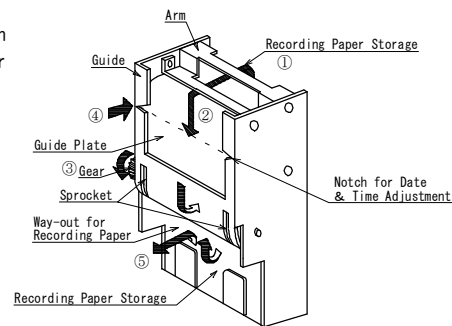

Fig. 7
2) Pass the paper under the arm through between the guide plate. (Fig. 7 ①→②)
3) Continuing to pass the paper through between the guide and the guide plate, turn the gear in the arrow mark direction and confirm the teeth of the gear and the sprocket going together. (Fig. 7 ②→③→④)
By turning the gear in the arrow mark direction, set Date & Time at the notch of the guide. (Fig. 7 ③, ④)